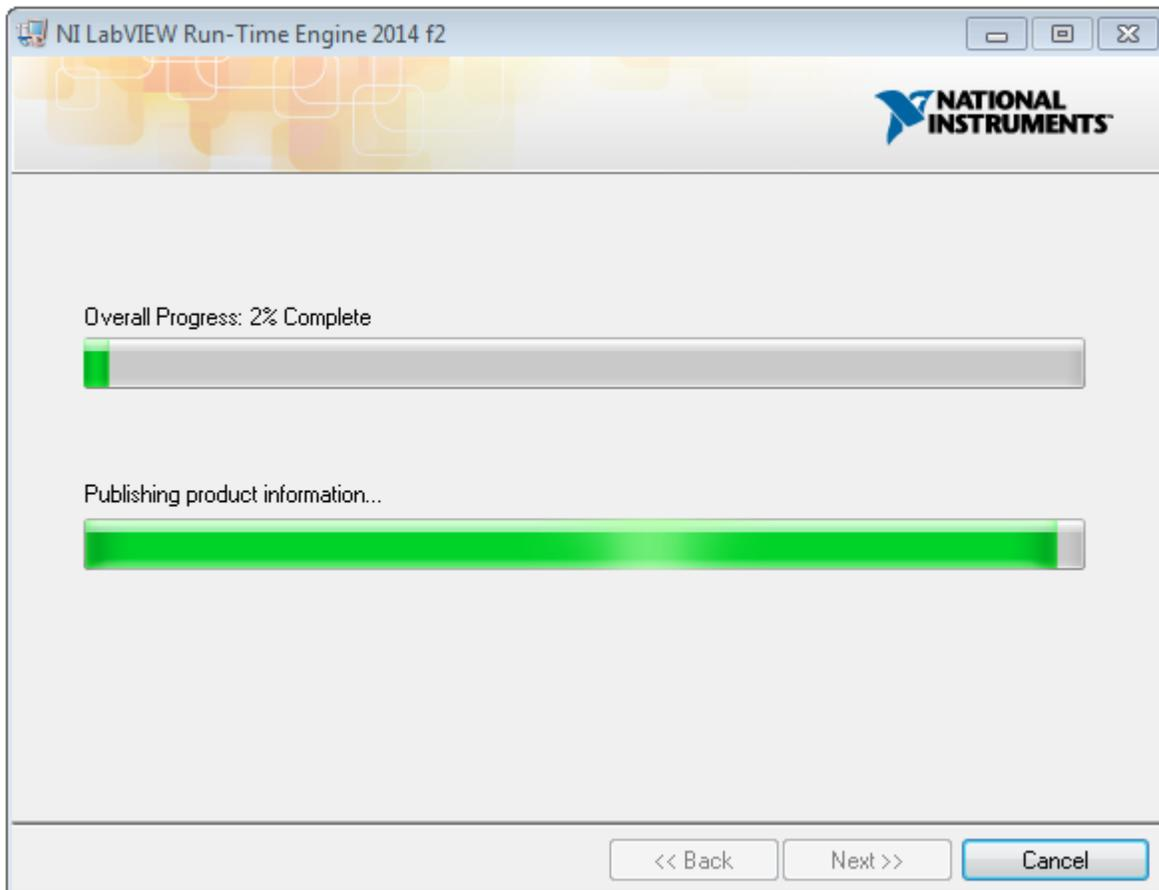

Figure 13. Installation of LabVIEW RTE in Progress
12. A display as shown in Figure 13 appears which indicates the progress of LabVIEW RTE installation.